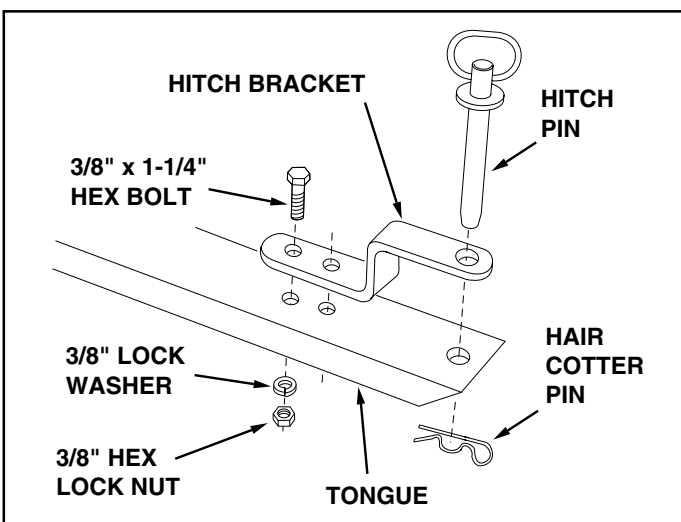

FIGURE 9
15. Assemble the hitch bracket to the front tongue using two 3/8" x 1-1/4" hex bolts, 3/8" lock washers and 3/8" hex lock nuts. **Tighten.** See figure 9.
16. Secure the hitch pin to the hitch bracket and tongue with the hair cotter pin. See figure 9.